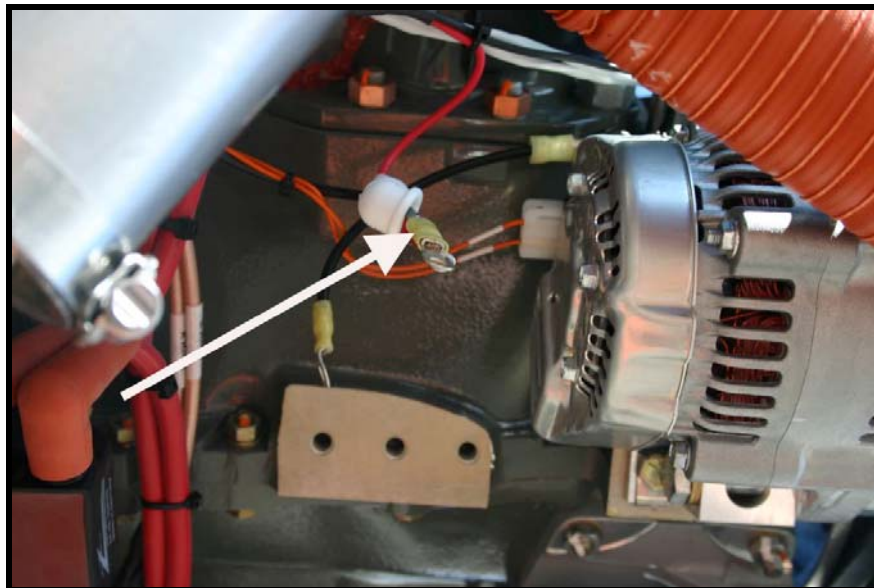

FIGURE 3
3. Remove existing connector from the same two wires and install ring terminals (crimp yellow #10 ring terminal on black wire and red #10 ring terminal on red wire). See Figure 3.